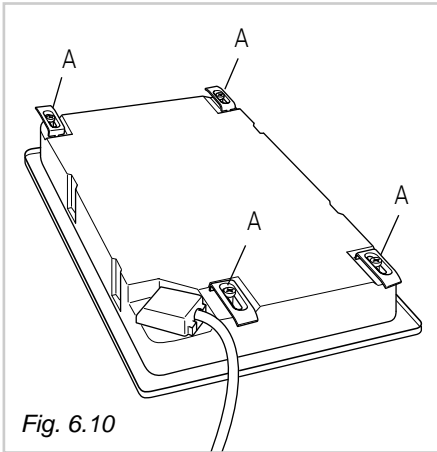
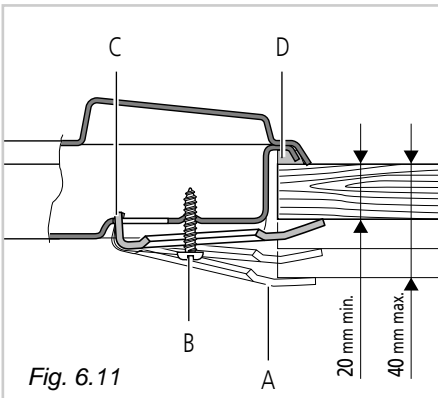

Fig. 6.10
Fig. 6.11
Each cooker top is provided with an installation kit including brackets and screws for fastening the top to fixture panels from 20-30 to 40 mm thick, figs. 6.11 (2 electrical plates hob) e 6.12 (vitroceramic hob).
- ✓ Turn the cooktop over and put tabs "A" (fig. 6.10) into the mountings, only tighten screws "B" a few turns. Make sure that the tabs are mounted correctly as shown in the figures 6.11 and 6.12. Turn the tabs so that the cooktop can be put into the hole.